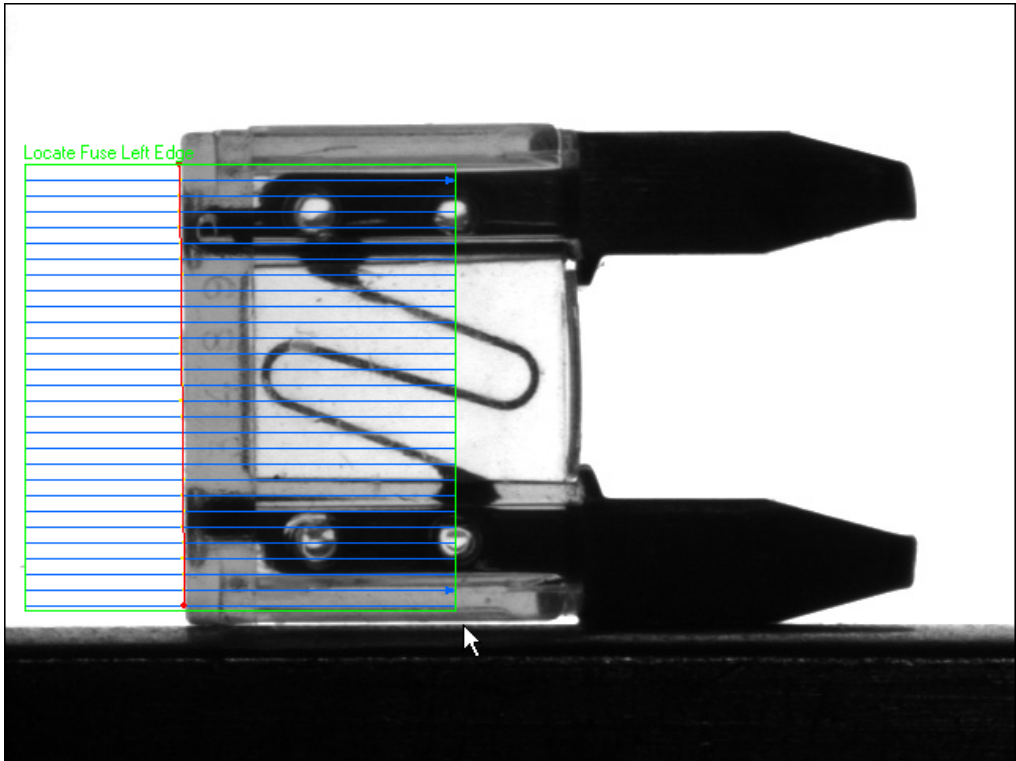

Figure 4-1. Finding a Straight Edge
4. Draw a region of interest across the left edge of the fuse, as shown in Figure 4-1.